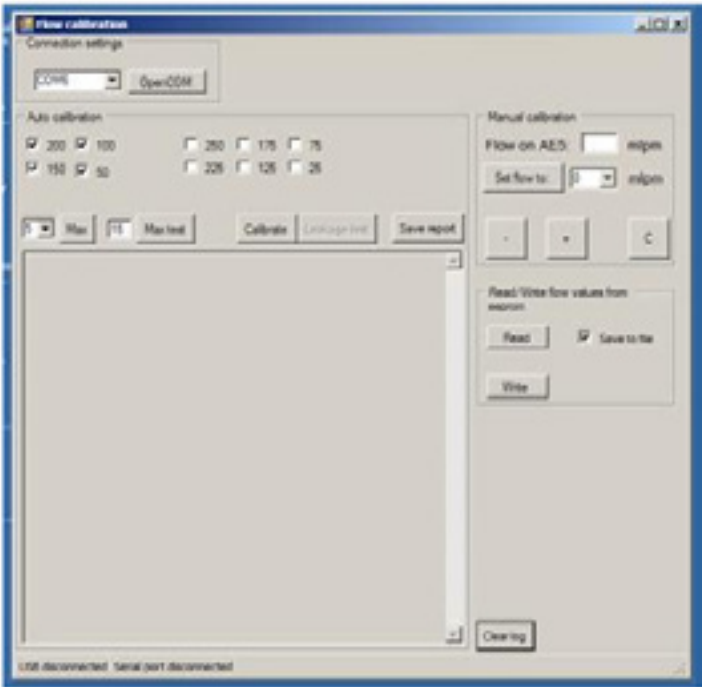

Figure 17: microAeth Flow Calibration Software – Main Screen
1. Download the microAeth Flow Calibration Parameters (Figure 17)
- d. On right hand side of screen, click check box “Save to File” (Figure 17)
- d. On right hand side of screen, uncheck the box ‘Save to File’ (Figure 17)